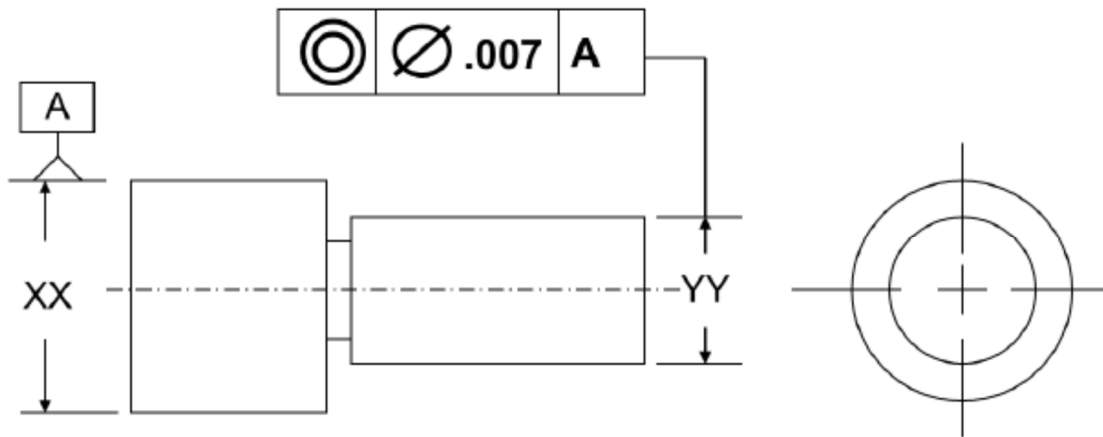

Figure 4 Shaft dimension
b) The design Engineer drew the component as shown in figure 4 .